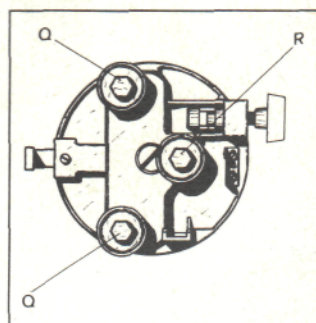

Fig. 17
The roller head is suspended by three special bearings (Fig. 17). Two of these are mounted on straight bearing shafts (Q) and the third is mounted on an eccentric shaft (R).